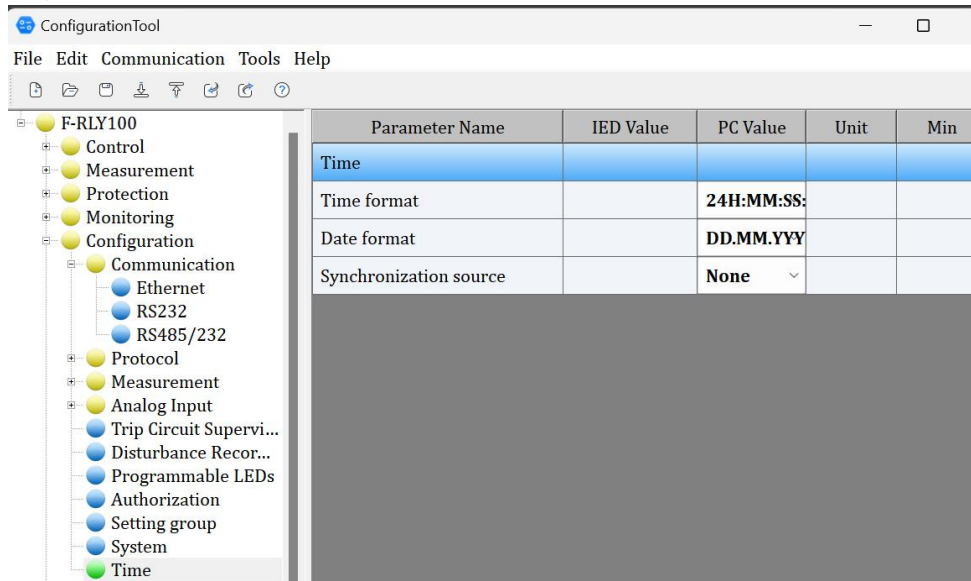

Figure 56
- 4) Click the “Time” and parameter settings window will popup where it is possible to edit. (Figure 56)